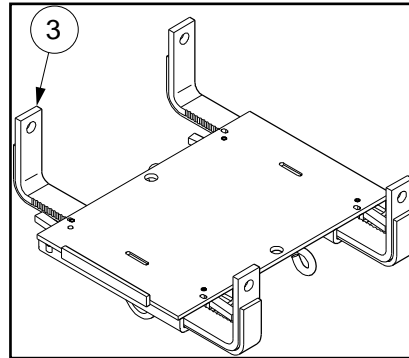

Fig. 30: Configuration 1
The technique for using configuration 4B (Fig. 30) is to position the axle assembly so the bottom of the differential housing rests directly on the lift platform. Spread transmission brackets (3) so they are approximately 18 inches wide and so the chains (7) are located to left and right of the differential housing. Slide adjustable vertical supports (5) along the universal support bars (9) and (10) until the upper portions come into contact with the axle housing. Use vertical supports (5) to tighten the chain slings (7) so they firmly cradle the axle housing on each